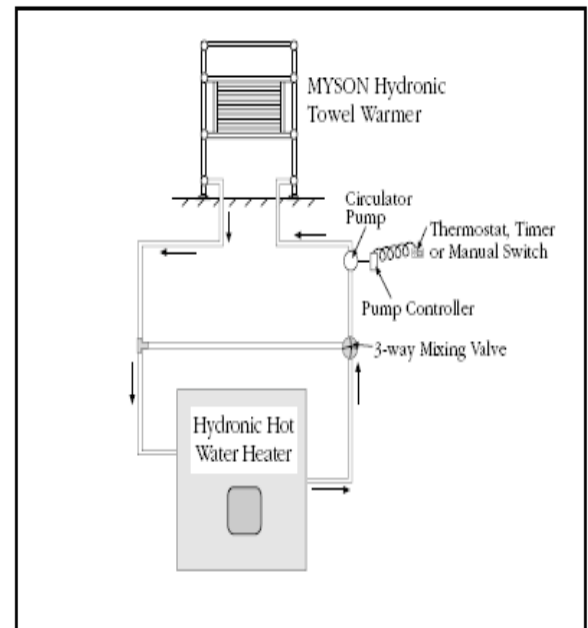

fig 4: Hot Water Boiler Connection
1. Connect the Towel Warmer on a separate zone with the circulator pump on the feed line to the Towel Warmer as shown in fig 4.
1. For radiant heat systems which have available water temperatures greater than 150°F, follow the instructions for connection to hydronic (hot water) heating systems in fig 4.